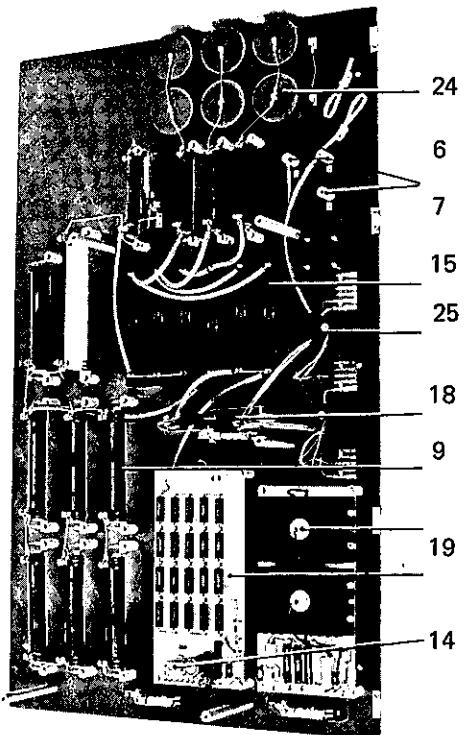
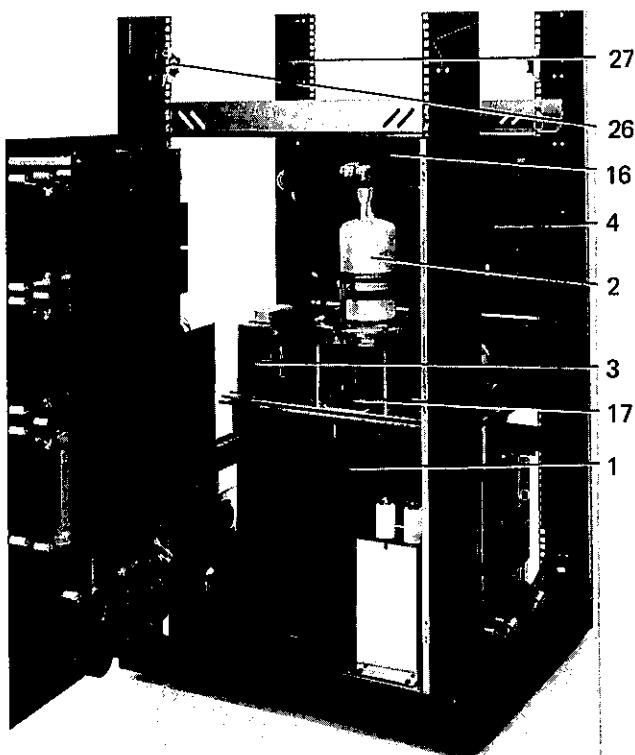

Fig. 5 High voltage plate EHV 110 A, U 2
Fig. 4 Rear view EHV 110 U 2
The high voltage is measured by the measuring and regulating voltage divider E4 (Fig. 5, item 6) and conducted to the high voltage regulator E1 (Figs. 4 + 8, Item 4) and to the high voltage measuring instrument (see the adjustment potentiometer R 23).
The cathode bias voltage unit E3 (Fig. 5, item 7) produces the cathode bias voltage (+ 54 volts relative to the grid), the signals for current limitation (R2/R3) and for excess current cutout R 1. The signal for current limitation (1.45 ÷ 1.55 A)